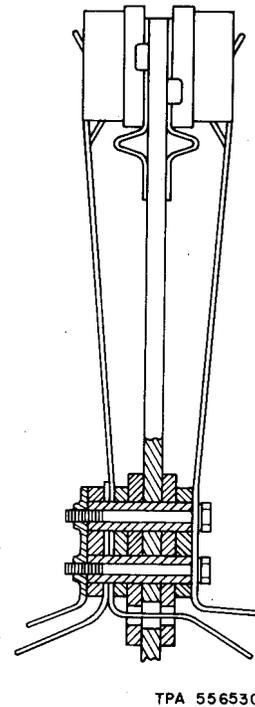

Fig. 8—E50A and E52A Protectors—E50 and E52 Protector Mountings
2.05 The E50 and E52 protector mountings (Fig. 8) are arranged for protector blocks only and are intended for use in toll cable plant where current protection is not required.